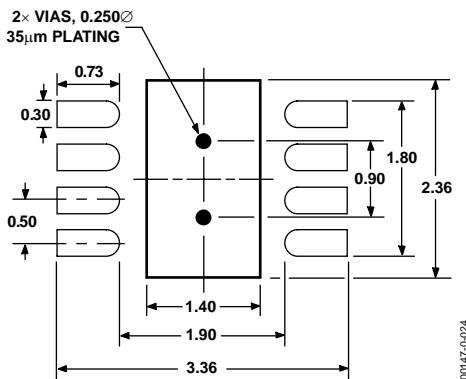

Figure 25. 3 mm  $\times$  3 mm LFCSP Pad Pattern
1. The pad pattern is given in Figure 25. The pad dimension should be followed closely for reliable solder joints, while maintaining reasonable clearances to prevent solder bridging.
2. The thermal pad of the LFCSP package provides a low thermal impedance path (approximately 20°C/W) to the PCB. Therefore, the PCB must be properly designed to effectively conduct heat away from the package. This is achieved by adding thermal vias to the PCB, which provide a thermal path to the inner or bottom layers. See Figure 25 for the recommended via pattern. Note that the via diameter is small to prevent the solder from flowing through the via and leaving voids in the thermal pad solder joint.